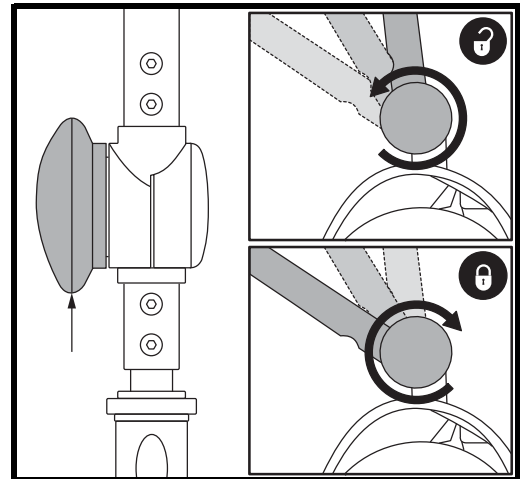

Figure 17. Tiller Adjustment Knob
## TILLER ANGLE ADJUSTMENT (See figure 17)
1. With the seat and battery pack removed (see Disassembly Procedures on previous page), lower the tiller and tighten the tiller adjustment knob. See figure 17.
3. Raise the tiller and fully tighten the tiller adjustment knob. See figure 17.